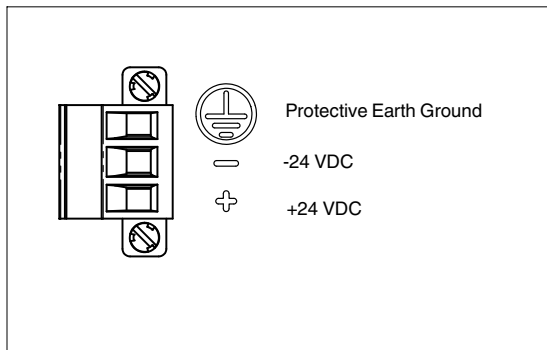

Figure 13: Power supply connection
1. Refer to Figure 13. Wire the three-pin terminal block connector using a 12-18 AWG wire and a small flat head screwdriver.